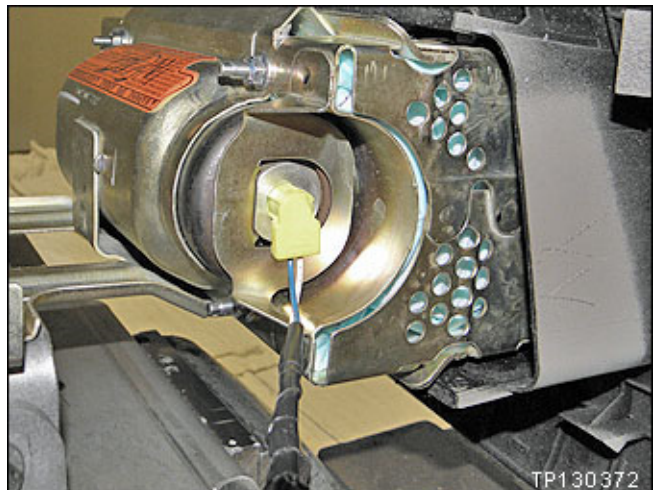

Figure S17
- Refer to Figures S17, S18, and S19.